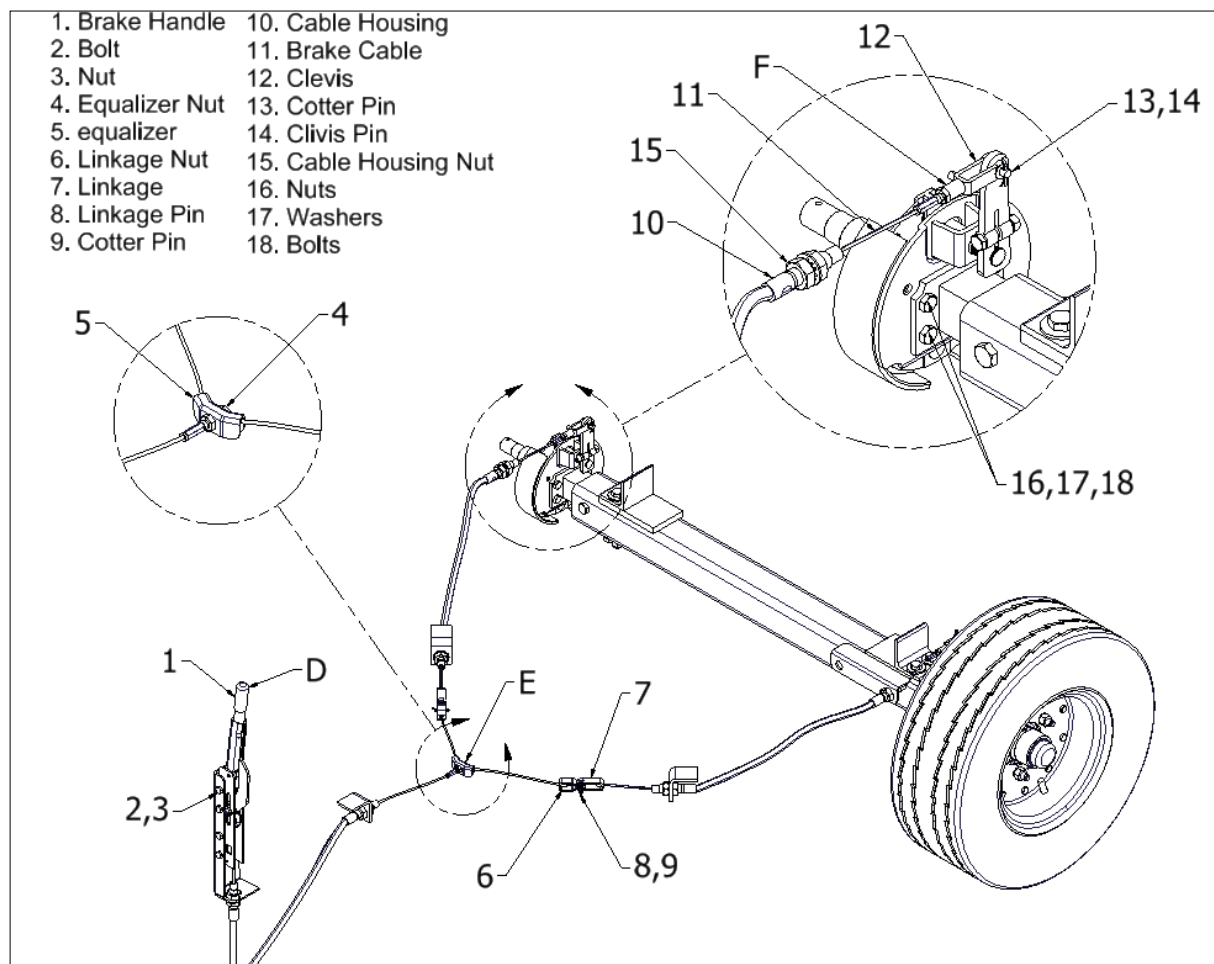

Figure 4-10 Brake and Cable Assembly
- Remove brake cable end from arm (5) as described in Section 4.17, step (a).
- Remove nuts (16), washers (17), and bolts (18) shown in Figure 4-10.
- Remove spring (3).
- Release brake shoes (2) by removing spring (9) from the backing plate (1).
- Remove nut (7), lock washer (8), and bolt (6) to release arm (5).
- Remove brake cam bolt (4) by pulling directly outward.
An in-field adjustment can be made at the brake handle by turning the handle cap clockwise to tighten brakes and counterclockwise to loosen the brakes (see reference arrow D in Figure 4-10.) This adjustment must be made with the brake handle in the off position. Maintenance level adjustments can be made at reference arrow E and reference arrow F of Figure 4-10 (each side).
The brake handle and cable assembly only need to be disassembled to the point that the repair is needed. These instructions start at the wheel assembly and progress toward the brake handle (1). (Figure 4-10)
- Remove cotter pin (13) and clevis pin (14) to release clevis (12).
- Unthread clevis (12) from cable
- Remove nut (15) and remove cable housing (10) from bracket.
- Remove nut at opposite end of cable and disassemble cable linkage parts (6), (7), (8), and (9).
- Remove nut (4) to release cable equalizer (5).
- Remove nut at other end of cable and release cable by disassembling cable linkage from brake handle (1).
- Remove bolts (2) and nuts (3) to free brake handle (1).